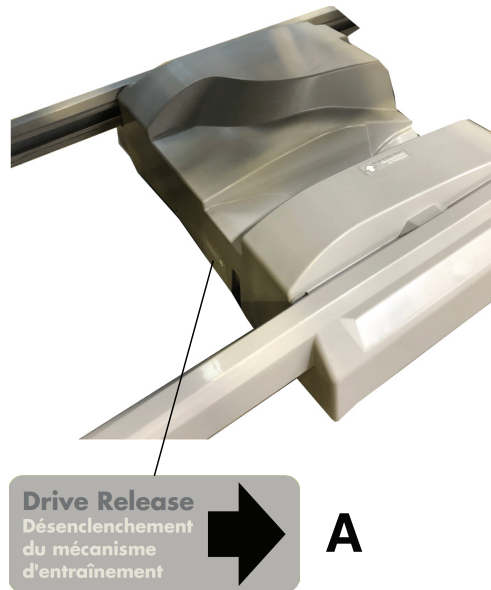

Figure 13 – Zoom Drive Release
- If **Zoom** loses power or has low battery while in drive, the **Zoom** wheel will lock in place. To allow the **Zoom** wheel to turn, press the Drive Release switch (A) located on the **Zoom** base (Figure 13).